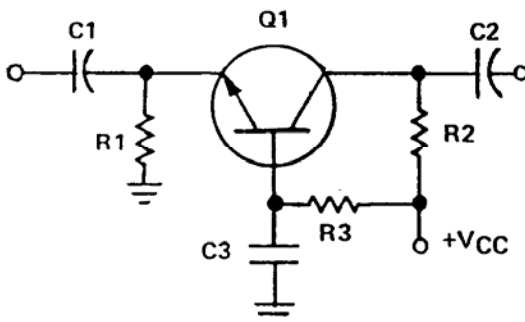

Figure D-3. CB Amplifier
- a. The CB amplifier, shown in Figure D-3, is used when voltage amplification is necessary with no phase shift or when the impedance of two stages must be matched. Remember that the CB amplifier has low input impedance and high output impedance. Refer to Table D-2 for the function of each component.